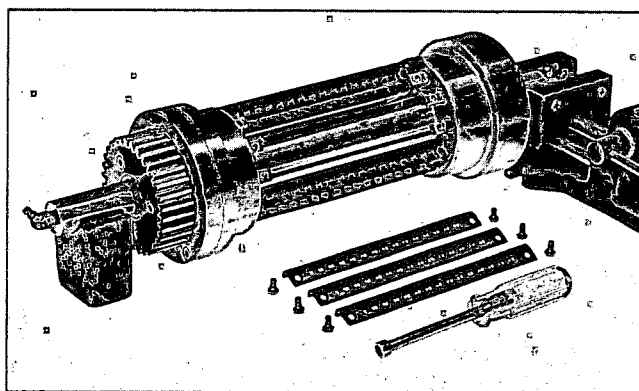

Figure 37 — Removing crosscut knives.
2. **Remove knife screws and knives.** Place spindle in "V" block support which will allow spindle to turn but prevent it from rolling (Figure 37). Use the hex driver to remove knife screws. (At this point the idler pins should be removed from the 22 knife spindle.)